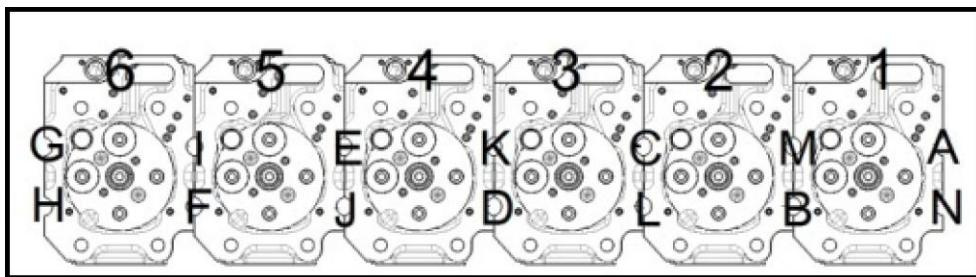

Figure 45.
2. Loosen the cylinder secondary bolts in the following order A-N (Refer to figure 45).